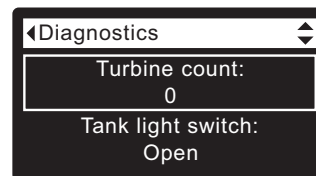

FIG. 94
2. Press the DOWN (▼) button to scroll through the list until **Turbine Count** is displayed (See Figure 94).